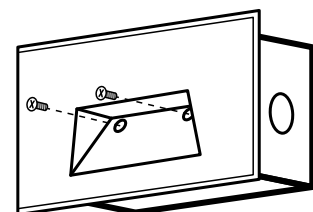

Figure 4
5. Attach fixture to junction box using the two supplied 6-32 Philips #2 screws. See figure 4.